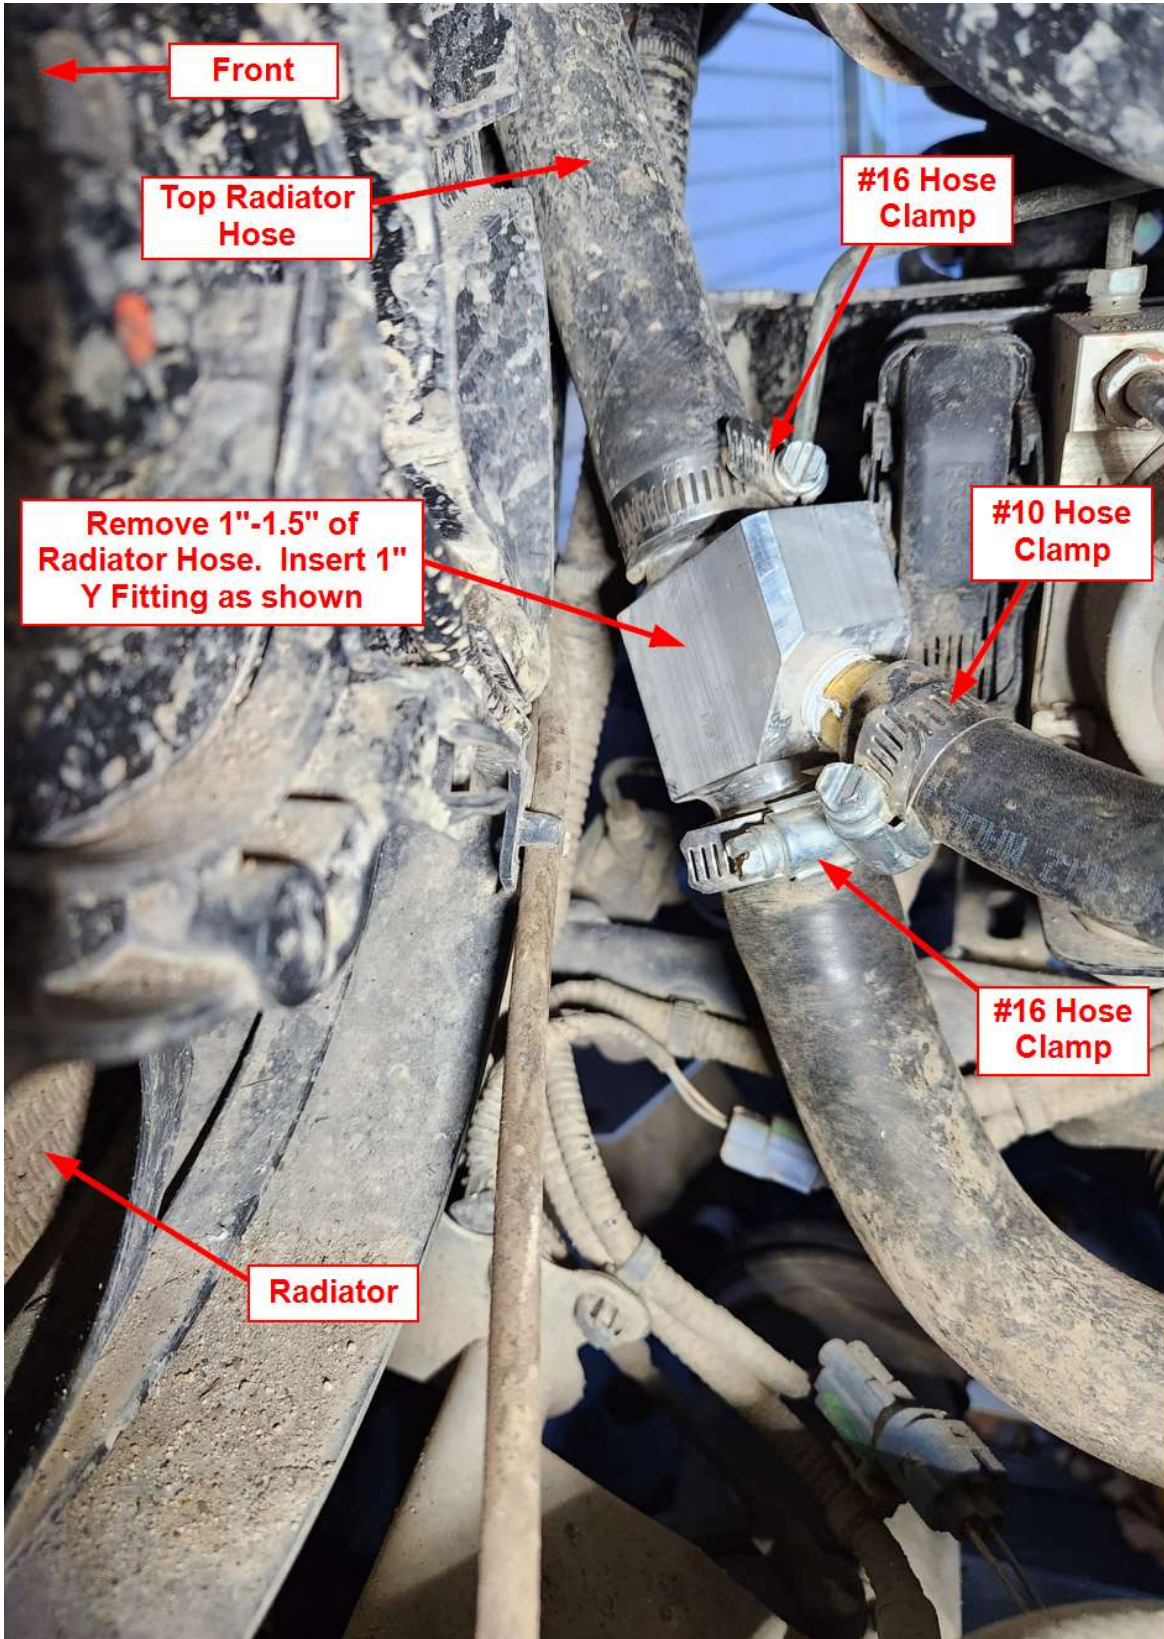

Figure 20
- g. Remove a 1"-1.5" piece of Radiator Hose from the Upper Radiator hose on the Passenger Side of the vehicle as shown in Figure 20. Insert the 1" Y Fitting in the orientation shown, attach the remaining 5/8" Heater Hose to the 5/8" port and secure the Y Fitting with #16 and #10 Hose Clamps as shown.